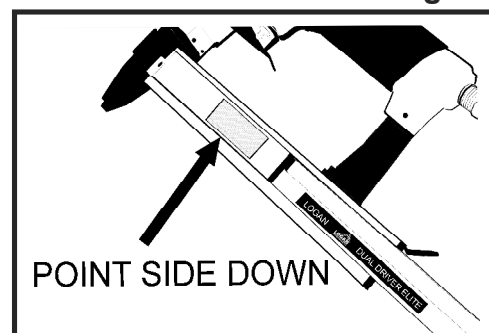

Fig 2
2. Insert full stacks of Logan points with the point side down. (**Fig 2**)